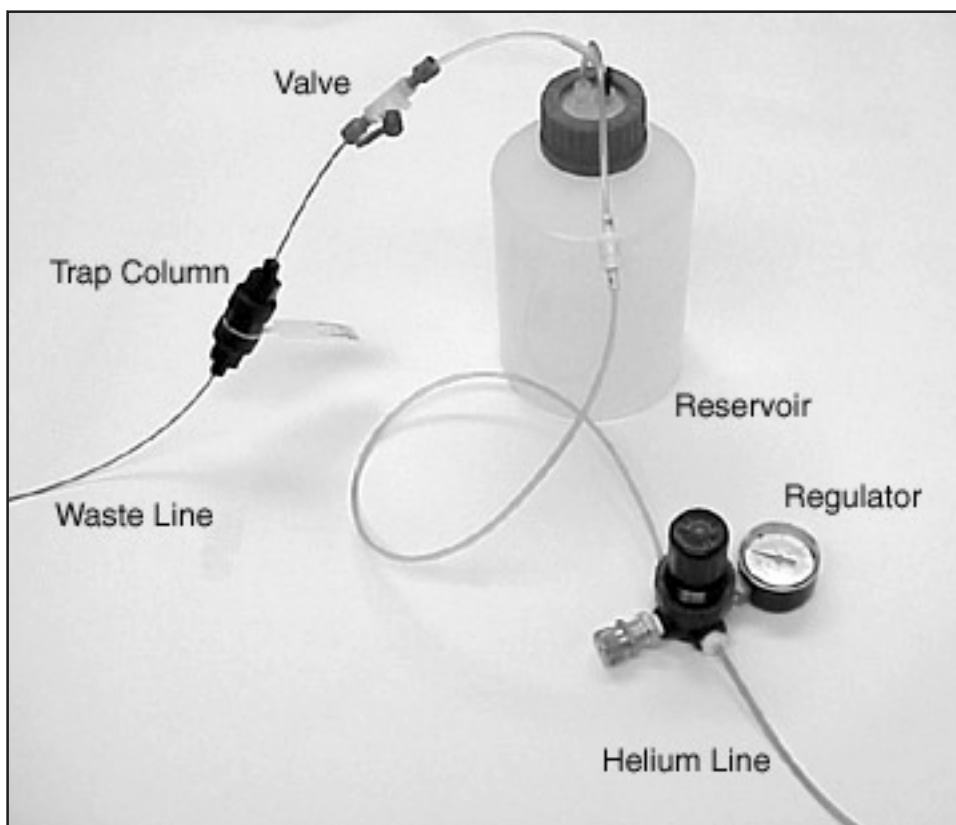

Figure 3
- B. Use the Trap Column/Suppressor Clean-up Kit to deliver 100 mL of 2.0 M NaOH solution through the 4-mm ATC-3 column or 50 mL for the 2-mm ATC-3 column. Direct the column effluent to a waste container (See Figure 3).
- A. Using the Trap Column/Suppressor Clean-up Kit, run through the new or exhausted 4-mm ATC-3 column approximately 200 mL of 70 mM $\text{Na}_2\text{B}_4\text{O}_7$ (100 mL for the 2-mm ATC-3 column). Direct the column effluent to a waste container (See Figure 3).
Under normal operating conditions, the ATC-3 column should be regenerated at the end of each operational day to remove any contaminants that may have collected on it, including carbonate. The daily regeneration of the ATC-3 column ensures that the IC system is systematically equilibrated for the most reproducible determinations of those anions being eluted by the weak eluents. Use the Dionex Trap Column/Suppressor Clean-up Kit (P/N 059659) for the regeneration of the ATC-3 column (see Figure 3, "Regeneration of an IonPac Trap Column Using the Trap Column/Suppressor Clean-up Kit"). Refer to Document No. 031835 "Product Manual for the Trap Column/Suppressor Clean-up Kit" for complete installation and operation instructions. Alternatively, the regeneration solution can be pumped using the analytical pump.
2. Use the Trap Column/Suppressor Clean-up Kit or the Analytical Pump to pump 100 mL of 2.0 M NaOH solution through the 4-mm ATC-3 column or 50 mL for the 2-mm ATC-3 column. Direct the column effluent to a waste container (see Figure 3, "Regeneration of an IonPac Trap Column Using the Trap Column/Suppressor Clean-up Kit").
Use the Dionex Trap Column/Suppressor Clean-up Kit (P/N 059659) or the Analytical Pump for the regeneration of the ATC-HC column (see Figure 3, "Regeneration of an IonPac Trap Column Using the Trap Column/Suppressor Clean-up Kit"). Refer to Document No. 031835, "Product Manual for the Trap Column/Suppressor Clean-up Kit," for complete installation and operation instructions.
- B. Use the Trap Column/Suppressor Clean-up Kit or the Analytical Pump to pump 200 mL of 2.0 M KOH solution through the exhausted ATC-HC column (see Figure 3, "Regeneration of an IonPac Trap Column Using the Trap Column/Suppressor Clean-up Kit").